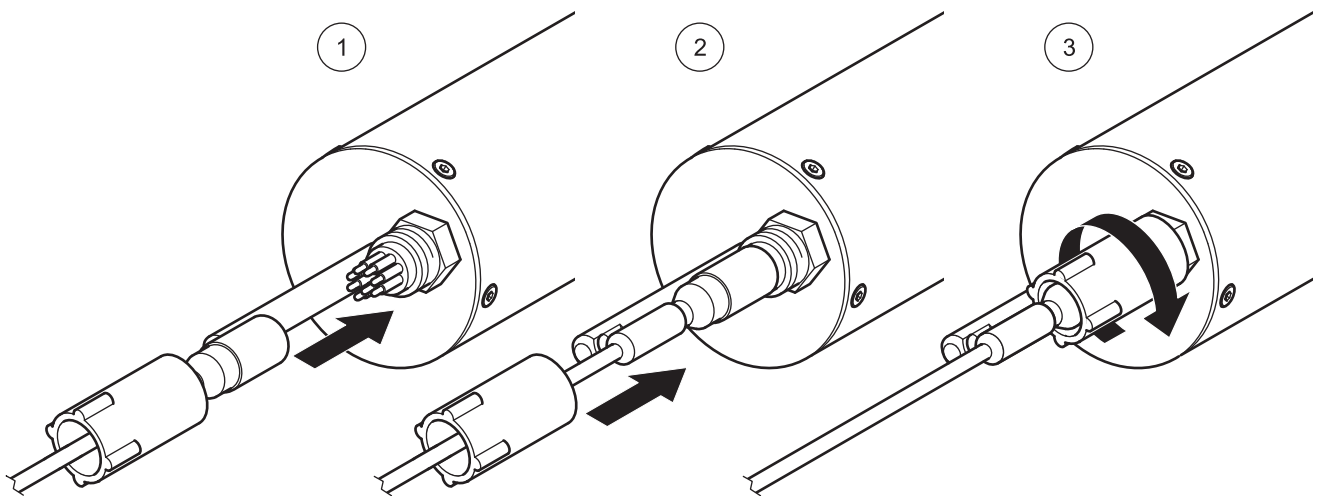

Figure 3 Connect the sensor cable to the sensor
1. Connect the polarized socket on the connector cable to the sensor plug (8-pin plug) (refer to Figure 3 step 1).